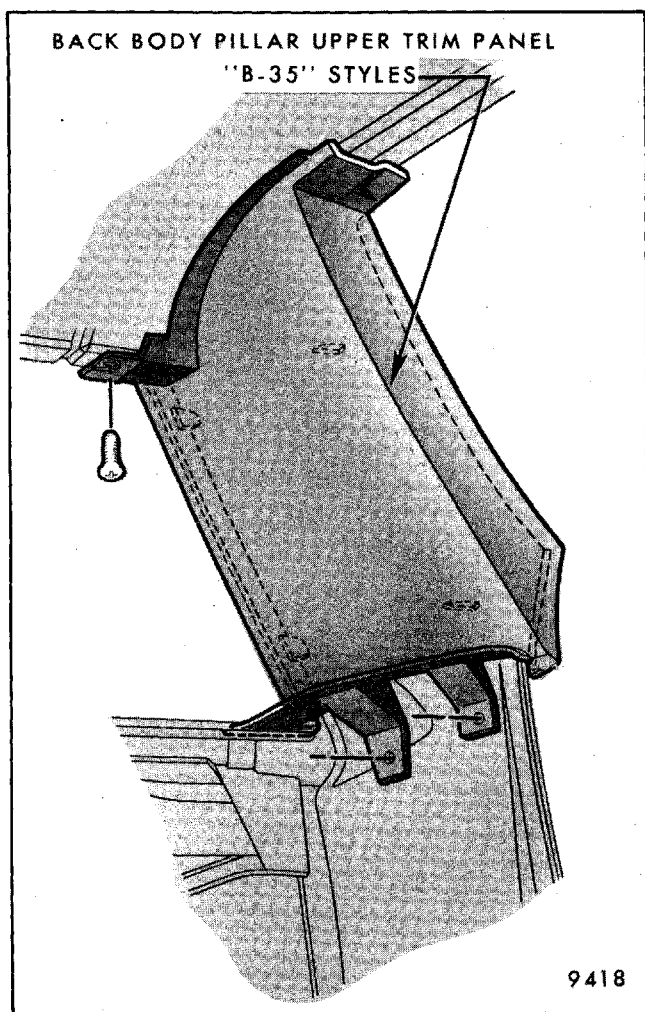

Fig. 6-26 - Back Body Pillar Upper Trim Panel - B-35 Styles
3. Remove one upper attaching screw and two lower attaching screws (Fig. 6-26).